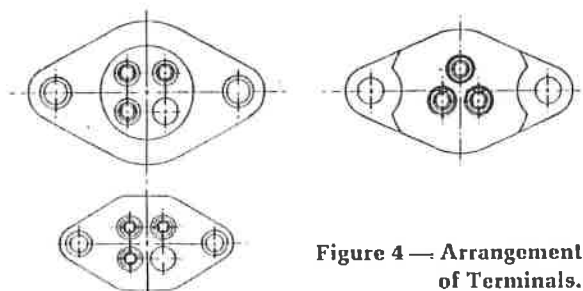

Figure 4 — Arrangement of Terminals.
2. Verify that the motor terminal gland plate (111) and terminals (019) are clean and free of dirt and foreign matter.
4. Remove shipping cap (023) from the cable terminal box (182).
5. Verify that the terminal box (182) and connectors are clean and free of dirt and foreign matter.
6. Verify that the terminals (019) will fit the connectors of the terminal box (182):
- (a) Refer to Figure 4. Check position of terminals (019) against that of connectors. The terminals (019) and connectors may be arranged in either an equilateral triangle positioning or a right triangle positioning.